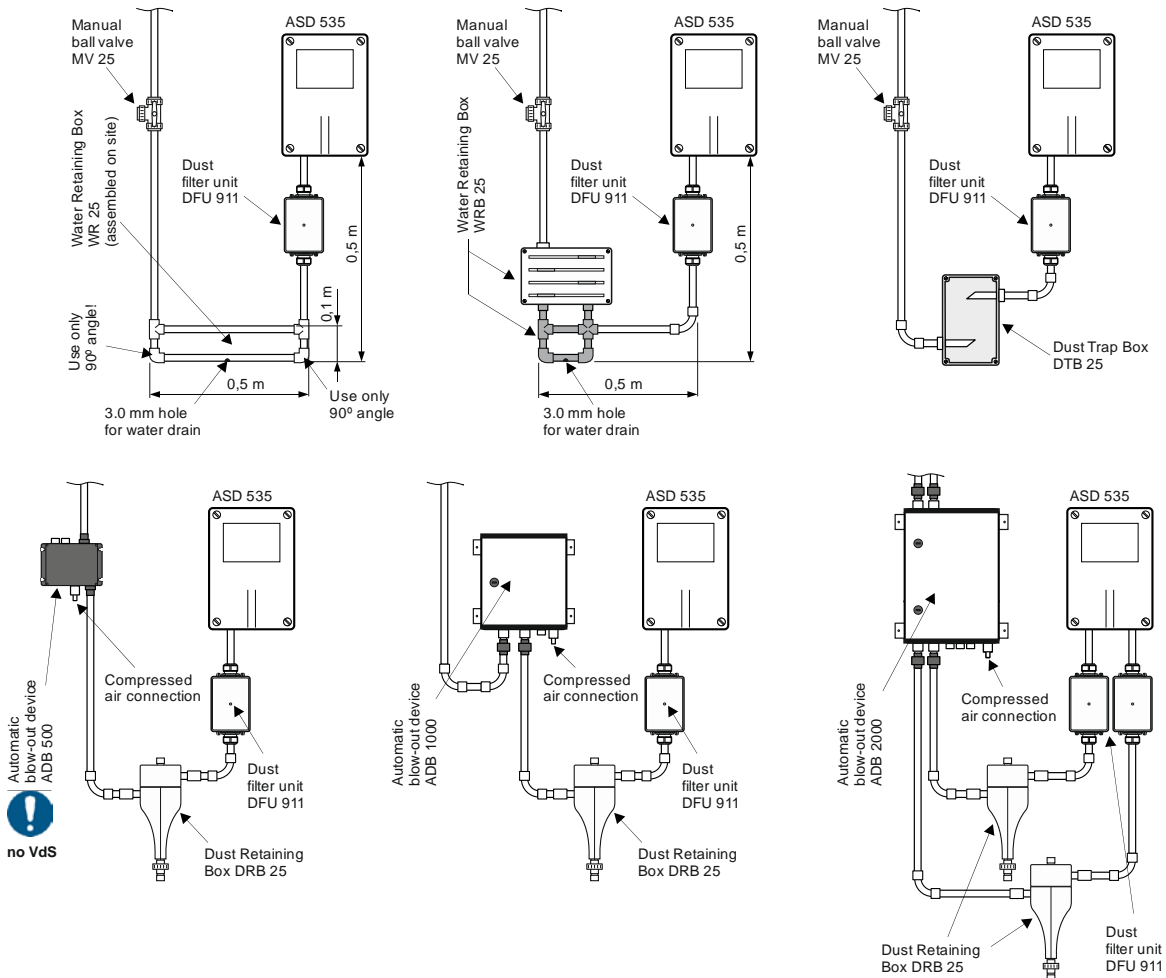

Fig. 16 Mounting accessory parts
- The mounting positions of water retaining box, dirt trap box and dust retaining box must be observed as shown in Fig. 16.